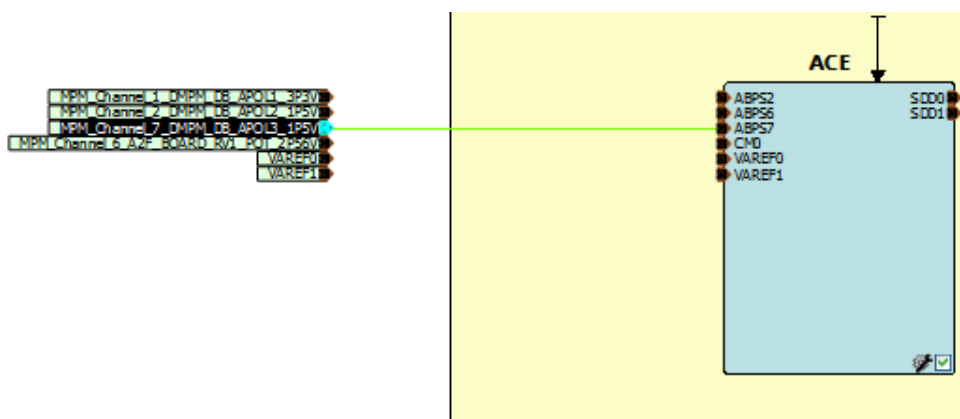

Figure 21 • MSS Configurator With Added Signal
8. The MSS configurator appears as shown in Figure 21. You can observe the added signal MPM_Channel_7_DMPM_DB_APOL3_1P5V.